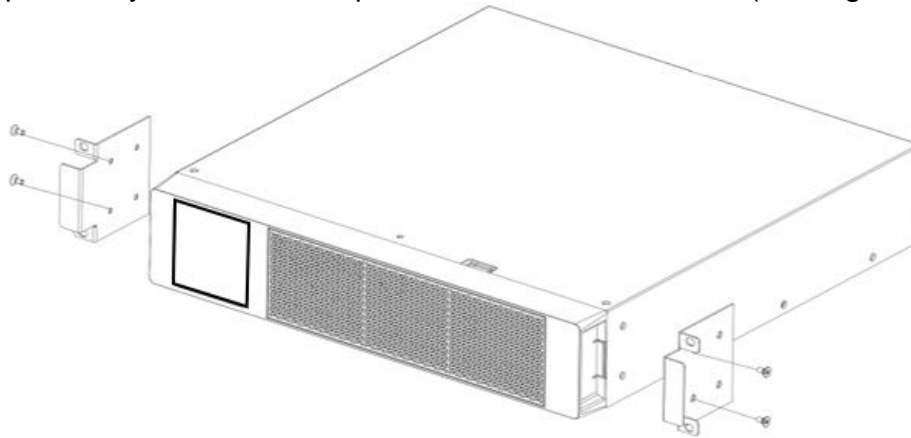

Figure 16: Install the Mounting Bracket
16. Align the mounting brackets with the screw holes on each side of the EBP and secure with the previously removed Phillips Flat Head M4x8 screws (see Figure 16).